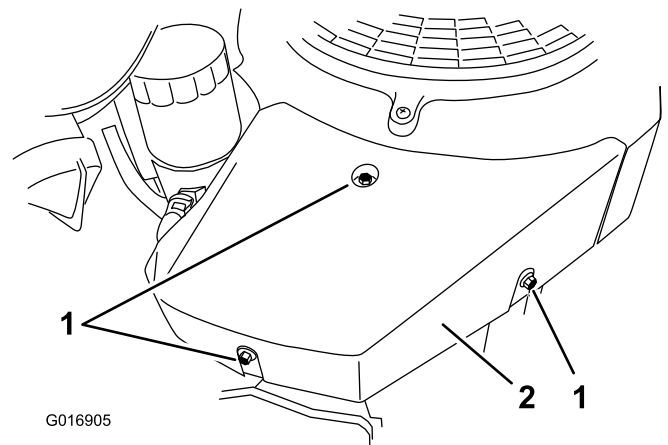

Figure 72
3. Remove the right shroud by removing the top mounting screw and loosening the 2 side screws (Figure 72).